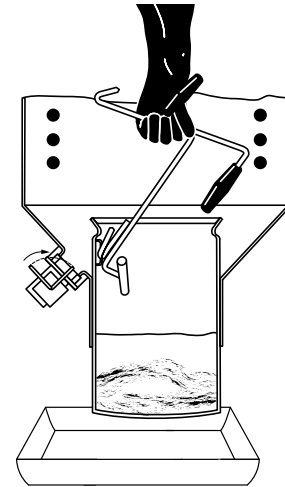

FIGURE 24
8. **CAUTION:** Wearing safety gloves, remove collector with basket drain hook (Figure 24).